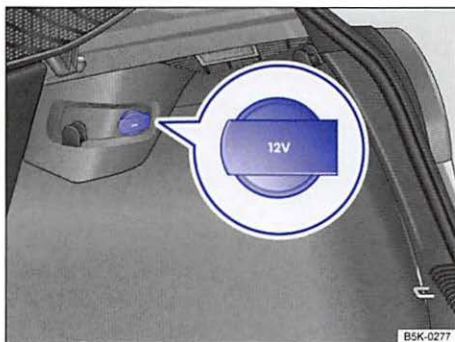

Fig. 103 In the luggage compartment: 12 Volt socket.
- In the luggage compartment ⇒ fig. 103.